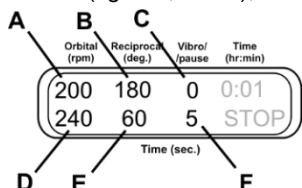
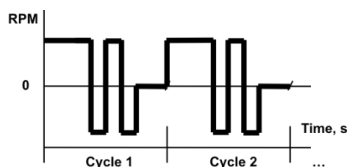

Figure 9.
Figure 10.
6.9.3 **Orbital + Reciprocal + Pause.** Set the speed (fig. 9/A, 20–250 rpm) and time (fig. 9/D, 1–250 s) of Orbital motion. Set the amplitude (fig. 9/B, 0–360°) and time (fig. 9/E, 1–250 s) for Reciprocal motion. It is performed at the same speed as the Orbital motion. Set the amplitude (fig. 9/C) of Vibro motion to zero. Set the time for Vibro motion (fig. 9/F, 1–5 s), this is the time of pause duration (fig. 10).